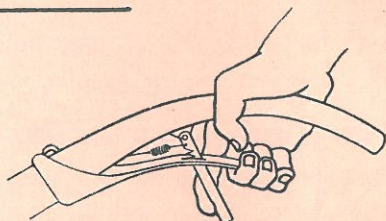

Fig. 6
**Ease the machine forward** and release the clutch catch, allowing the clutch lever to drop down and the clutch to engage. See Fig. 6.